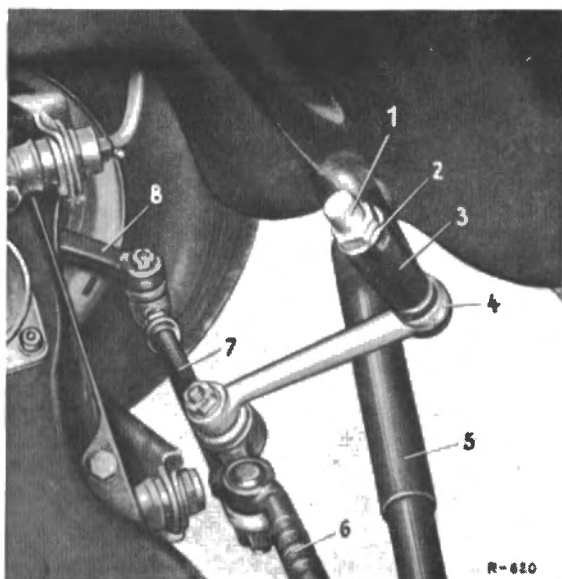

Fig. 46-11/1
2. Tap up the locking plate (2) for the cover plate (1) on the top of the trunnion bearing (3) of the steering relay arm (4). Then loosen the cover plate and remove together with the pressure spring and the thrust washer. Pull the arm out of the trunnion bearing downward (Fig. 46-11/1).